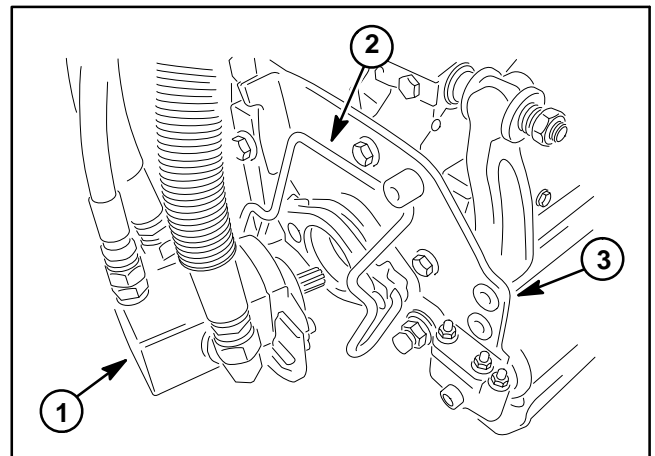

Figure 57
B. Slide reel motor from cutting unit (Fig. 57).
6. Remove two (2) retaining rings that secure motor mount (item 11) to reel motor. Remove motor mount from motor.
2. Position motor mount to reel motor flange and secure with two (2) retaining rings.
B. Align reel motor shaft splines with splines in cutting reel. Slide reel motor into cutting unit side plate (Fig. 57).